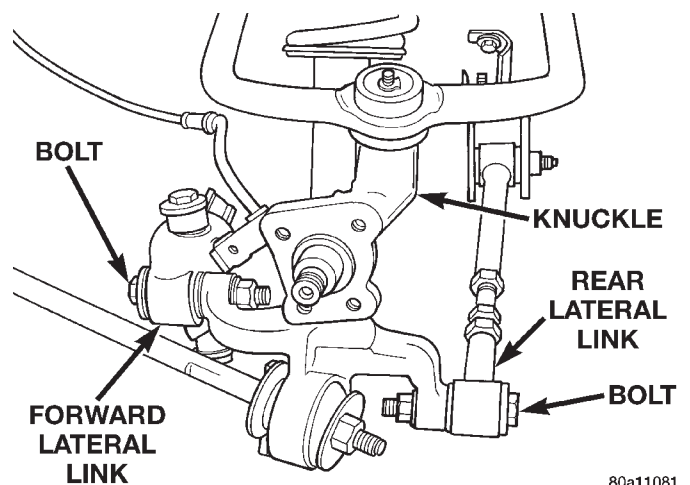

Fig. 13 Lateral Link Attachment To Rear Knuckle
(8) Remove the nuts and bolts attaching the forward and rear lateral links (Fig. 13) to the rear knuckle.
(3) Install upper ball joint stud in knuckle. Install and tighten the ball joint stud castle nut to a torque of 67 N·m (50 ft. lbs.). Install cotter pin in ball joint stud.
(4) Install the front and rear lateral links and attaching nuts and bolts on the knuckle (Fig. 13) Tighten the lateral links to knuckle attaching bolts and nuts to 95 N·m (70 ft. lbs.).